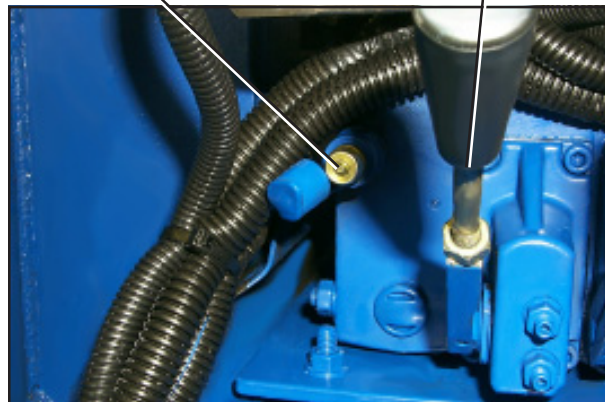

Figure 2.7
4. Connect a 0-4000PSI gauge on the quick coupler located on the proportional valve (Figure 2.7).